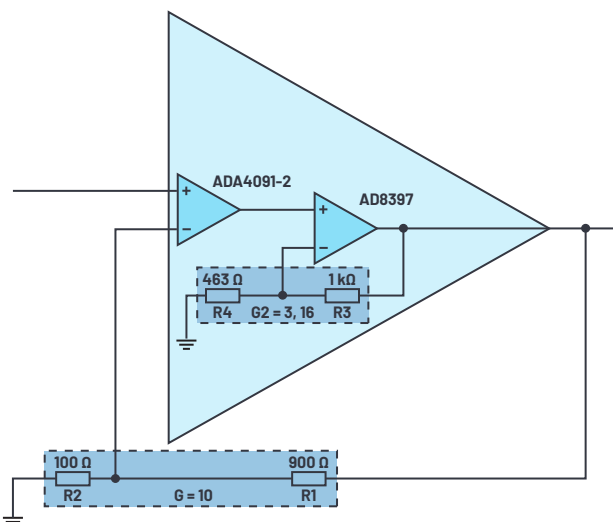

Figure 1. Schematic diagram of two op amps connected in series to form a composite amplifier.
A composite amplifier consists of an arrangement of two individual amplifiers, often with different characteristics. Such an arrangement is shown in Figure 1. Amplifier 1 represents the low noise precision amplifier, ADA4091-2. Amplifier 2, in this case the AD8397, features a high output power that serves to drive additional modules.
The configuration of the composite amplifier shown in Figure 1 is similar to that of a noninverting amplifier in which the two resistors, R1 and R2, act externally. The two op amps connected in series should be considered a single amplifier. The total gain (G) is set via the resistance ratio, $G = 1 + R1/R2$. A change in the ratio of R3 to R4—and in effect, the gain of amplifier 2 (G2)—also affects the gain or output level of amplifier 1 (G1). The effective total gain is not changed by R3 and R4. If G2 decreases, G1 increases.
In a typical op amp circuit, part of the output is fed back to the inverting input. In this way, output errors can be corrected via the feedback path to improve accuracy. The combination shown in Figure 1 also offers a separate feedback path for amplifier 2, although it is in the feedback path of amplifier 1. The output of the overall arrangement contains larger errors due to amplifier 2, but they will be corrected as they are fed back to amplifier 1. Thus, the accuracy of amplifier 1 is retained. The output offset is only proportional to the error of the first amplifier and remains independent of the offset of the second one.
Through a combination of two amplifiers connected in series, the best characteristics of both can be combined while achieving results that are unattainable with individual op amps. For example, a high precision amplifier with a high output power and a higher bandwidth can be achieved. Figure 1 shows an example of a circuit with the rail-to-rail amplifier, AD8397 (~ 3 dB bandwidth = 69 MHz), and the precision amplifier, ADA4091-2 (~ 3 dB bandwidth = 1.2 MHz), which in combination have a bandwidth that is more than twice as high as they each have individually (at $G = 10$). Furthermore, with the combination of the AD8397 and various precision amplifiers, noise reduction as well as THD improvements can be achieved. However, in the design, system stability must also be ensured through a correct amplifier configuration. If all criteria are considered, the composite amplifier offers numerous possibilities for covering a very wide and demanding range of applications.